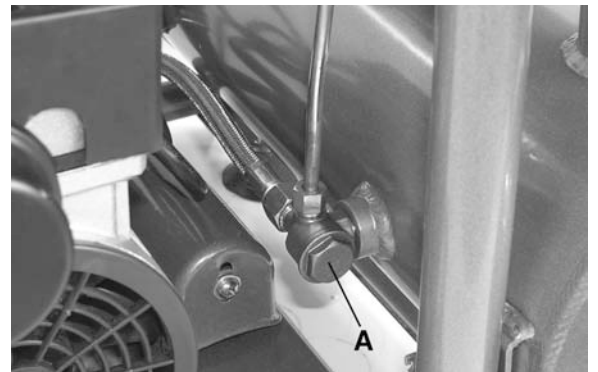

FIGURE 4
CHECK VALVE (A) FIG.4. When the air compressor is operating, the check valve is “open”, allowing compressed air to enter the air tank. When the air compressor reaches its “Cut-Out” pressure, the check valve “closes”, allowing air pressure to remain inside the air tank.